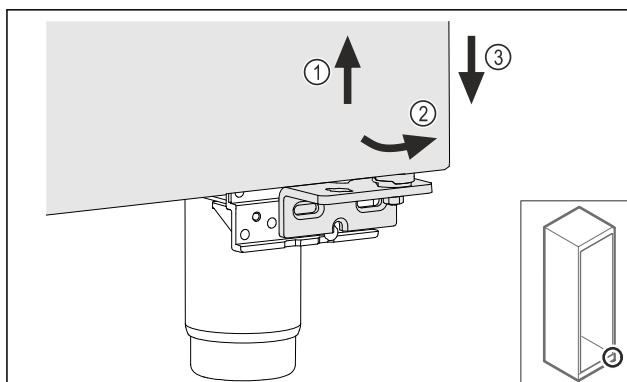

Fig. 12
- Lift the door slightly Fig. 12 (1), tilt it forwards at the bottom Fig. 12 (2) and lower it Fig. 12 (3).